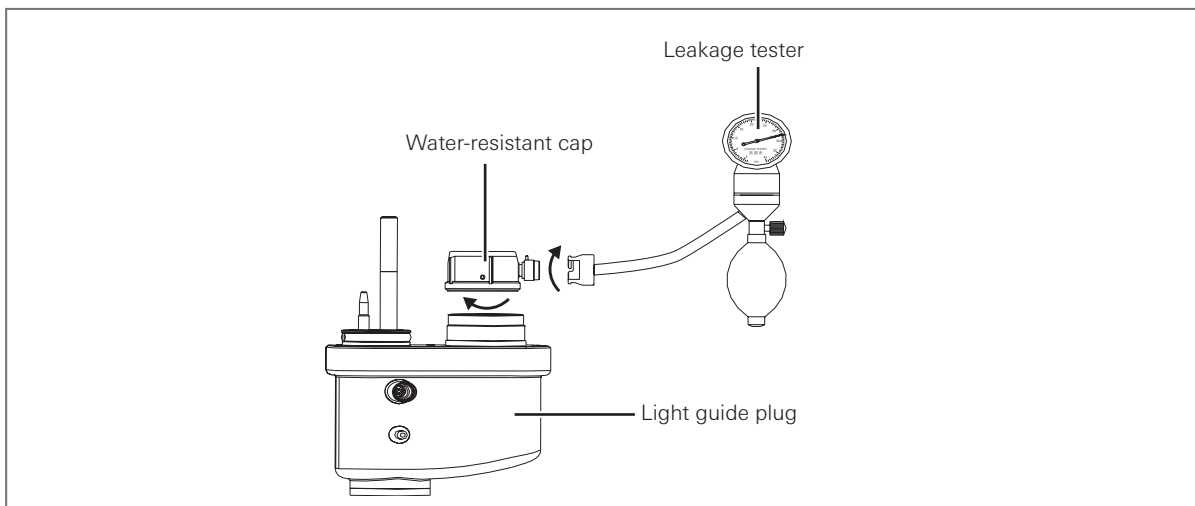

Figure 5.1
1. Connect the leakage tester to the endoscope according to the method as follows. (See Figure 5.1)